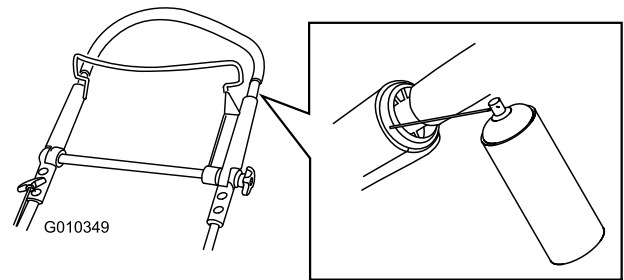

Figure 47
1. Spray the outer plastic end of the inner handle (Figure 47).